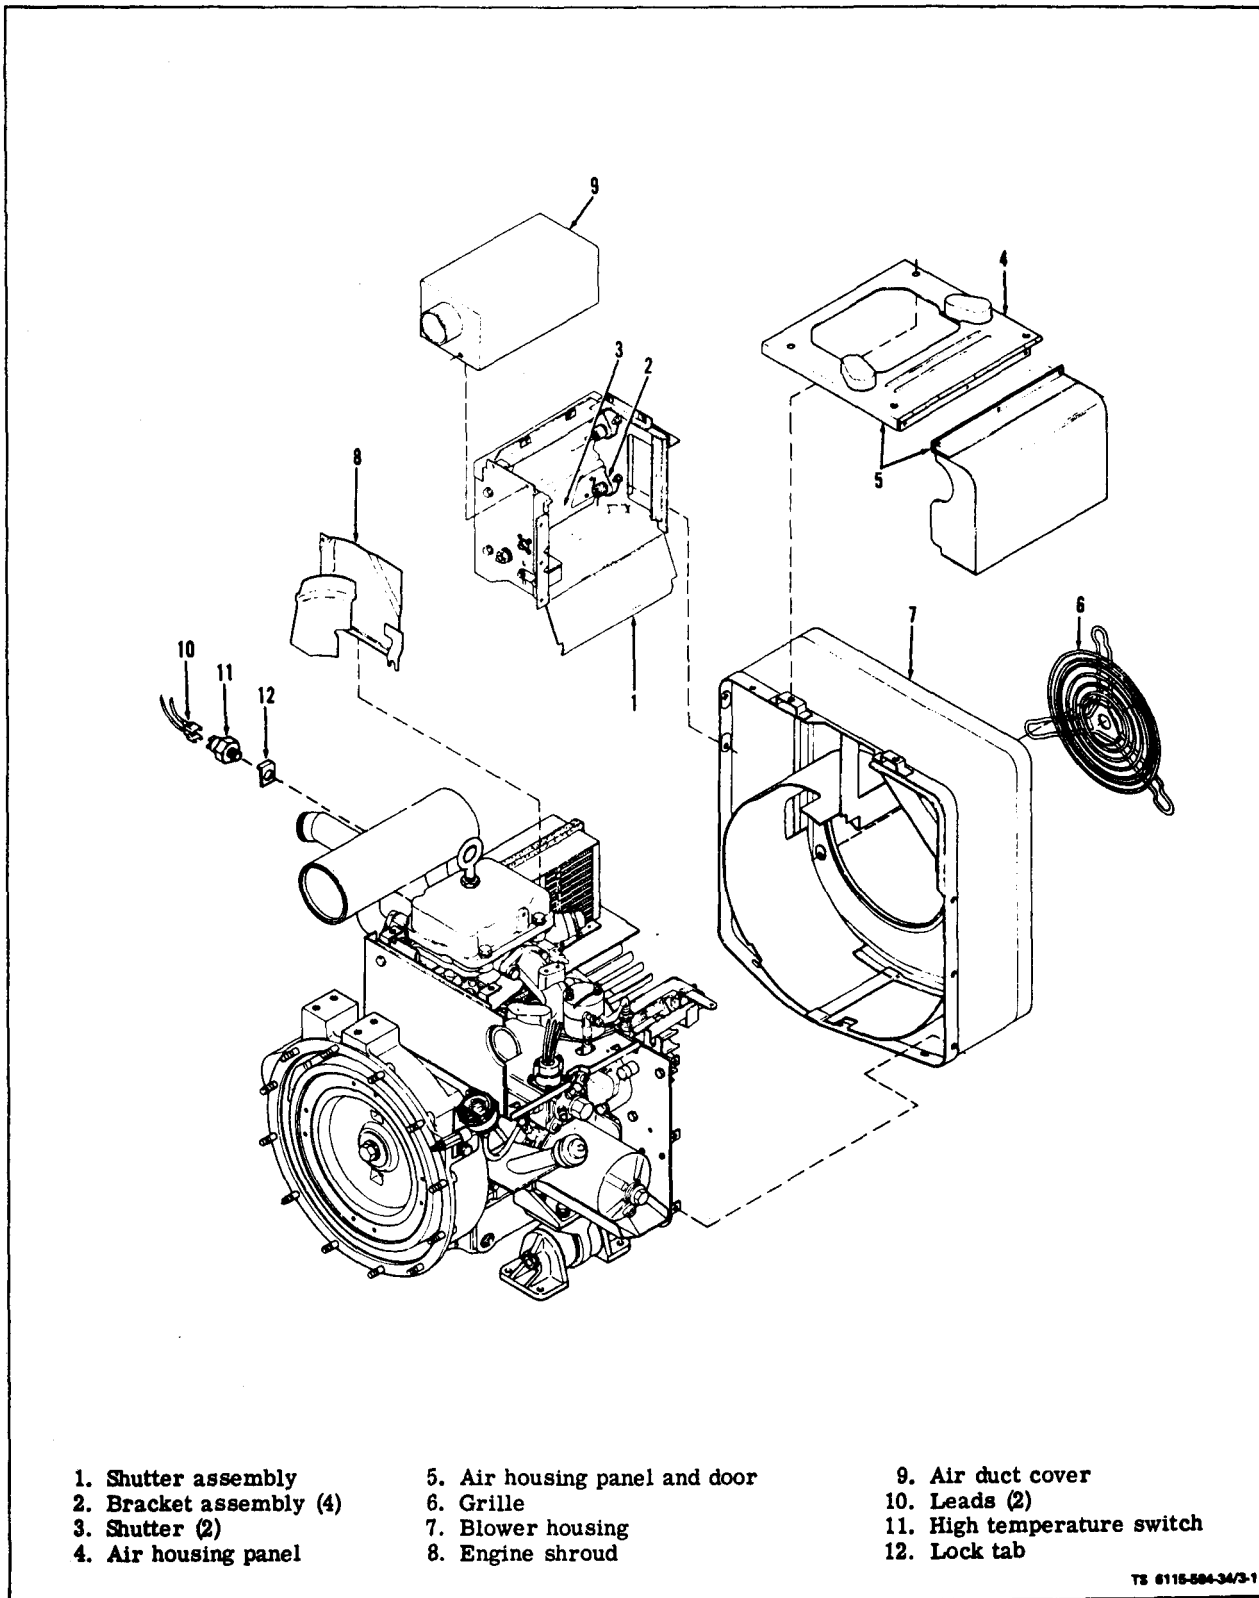

Figure 3-1. Engine Cooling System
a. Inspect on Equipment (see figure 3-1). On ASK equipped generators, refer to Operator and Organizational Maintenance Manual and remove cover assembly and exhaust plenum.
(1) Shutter Assembly. Inspect shutter assembly (1) for physical damage. Check for debris within assembly. Check for smooth operation of shutters when moved manually. Check for chipped paint or rusting.
(2) Bracket Assembly. Inspect that brackets (2) are securely mounted to shutters (3). Check that bracket bearings are not excessively worn. Refer to Operator and Organizational Maintenance Manual.
(3) Shutters. Inspect shutters (3) for physical damage and secure mounting to brackets (2).
(4) Air Housing Panel and Door. Inspect air housing panel and door (5) for physical damage.
(5) Grille. Inspect grille (6) for secure mounting to blower housing (7). Check for physical damage. (For units without ASK.)
(6) Blower Housing. Inspect blower housing (7) for physical damage. Check that blower housing is securely mounted to engine.
a. Remove (see figure 3-1). On ASK equipped generators, refer to Operator and Organizational Maintenance Manual and remove top panel assembly and exhaust plenum.
(1) Disconnect electrical leads (10).
(2) Straighten locking tab (12) and remove switch (11).